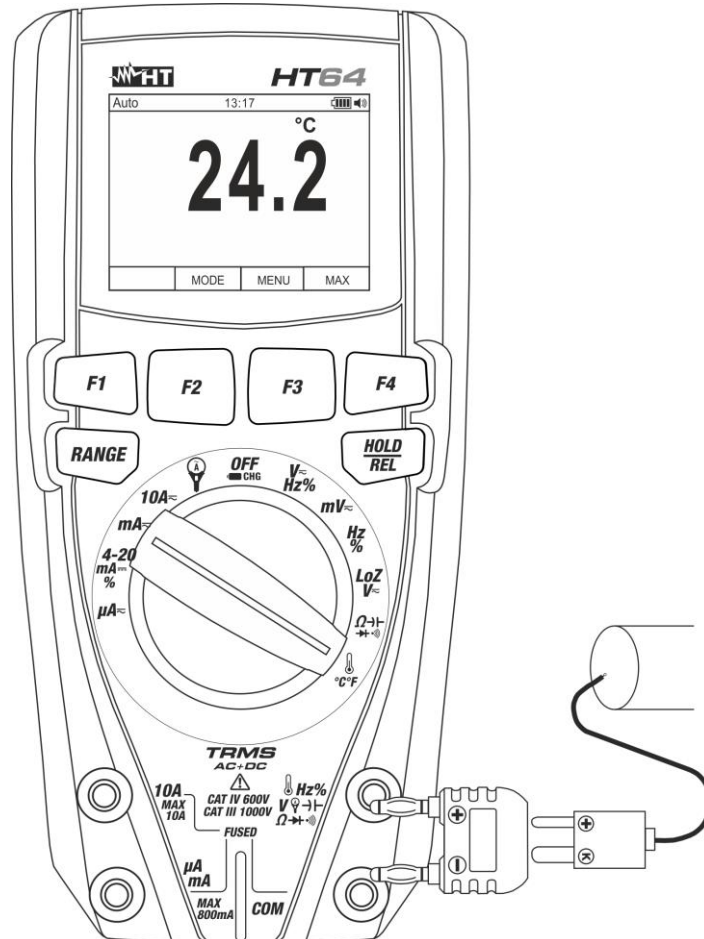

Fig. 29: Use of the instrument for Temperature measurement
3. Insert the provided adapter into input terminals Hz% V Ω (polarity +) and **COM** (polarity -) (see Fig. 29)